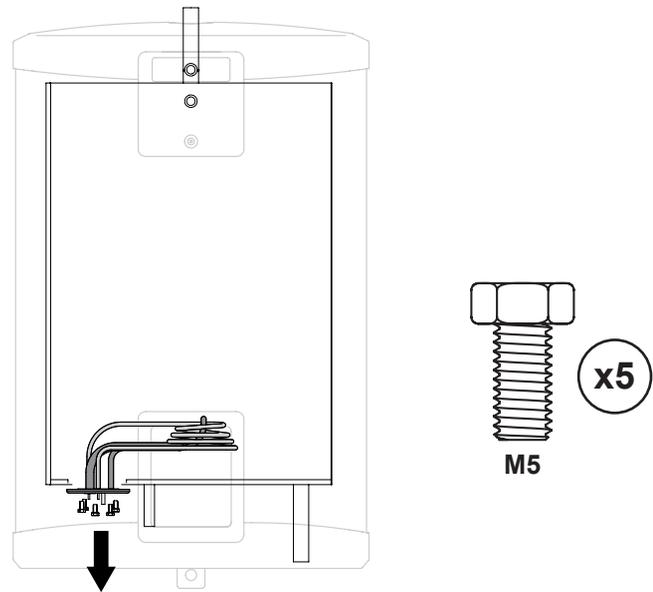

Figure 31: Immersion heater removal step 1
- ▶ Remove fixing bolts as shown in figure 31.